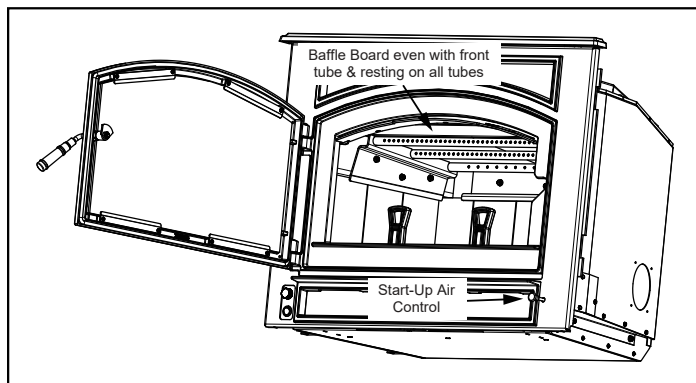
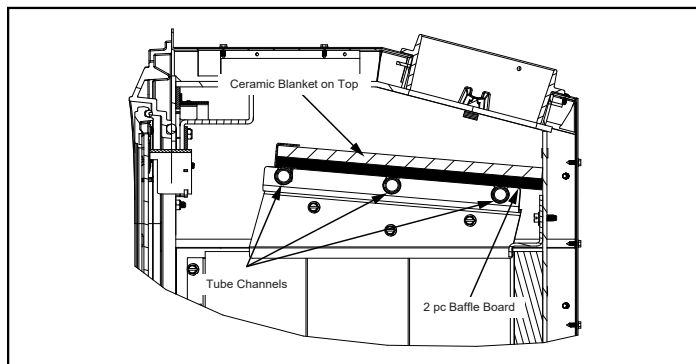

Figure 13.1
Figure 13.2
1. Confirm the baffle and ceramic blanket are correctly positioned. They should be even with the front tube and resting on all tubes (**Figure 13.1 and Figure 13.2**).